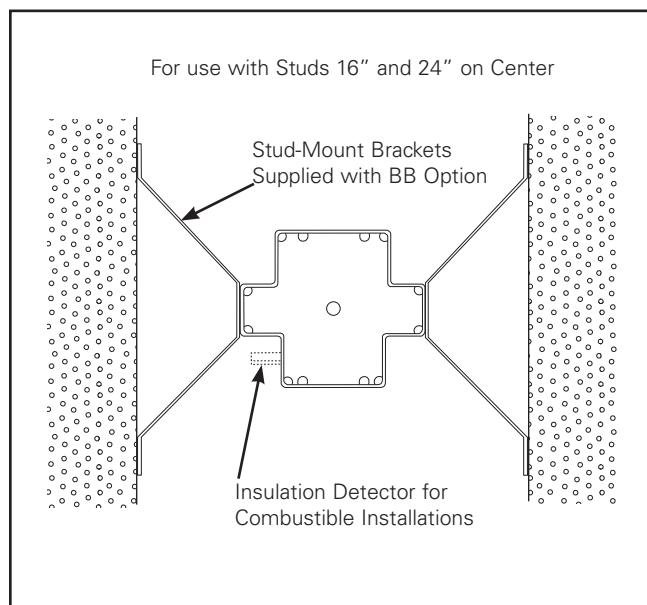

Figure 4. Stud / Box Mount
2. Make sure the insulation detector is snapped into the lower-left side of the regressed box. Use stud-mount brackets supplied with unit to secure box to stud framing (Figure 4.). These brackets accommodate for studs 24" on center, but may be bent in to accommodate for studs 16" on center as well. Bracket allows for 1" of travel to outside surface. The outside front surface of the box must be flush with the outside finished wall to ensure proper installation. Vapor barrier material (silicone caulk) must be put around perimeter between unit and finished wall to prevent water entry.